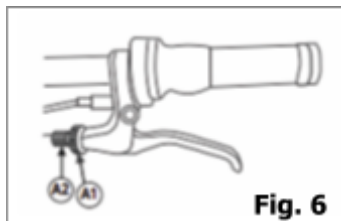

Fig. 6
- If the lever reaches the handlebar or lever travel is longer than desired, you can tighten the cable by turning the barrel on the lever A2 (Fig. 6) counterclockwise. Once tight enough, lock it into position by turning the A1 part of the barrel clockwise.